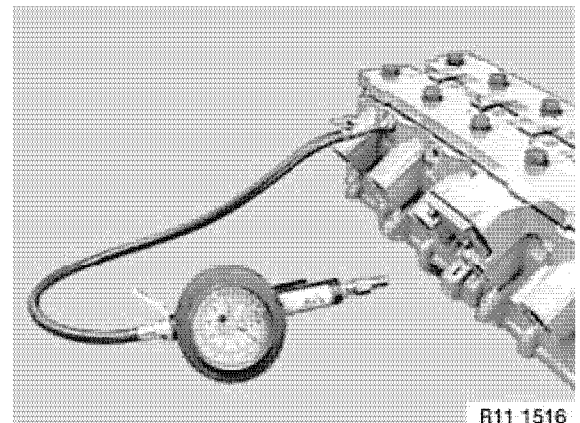

Figure 5-27
3. Connect air source to cylinder head and immerse in water bath. Apply pressure and adjust to 4.5 bar (65 psi) (**Figure 5-27**).